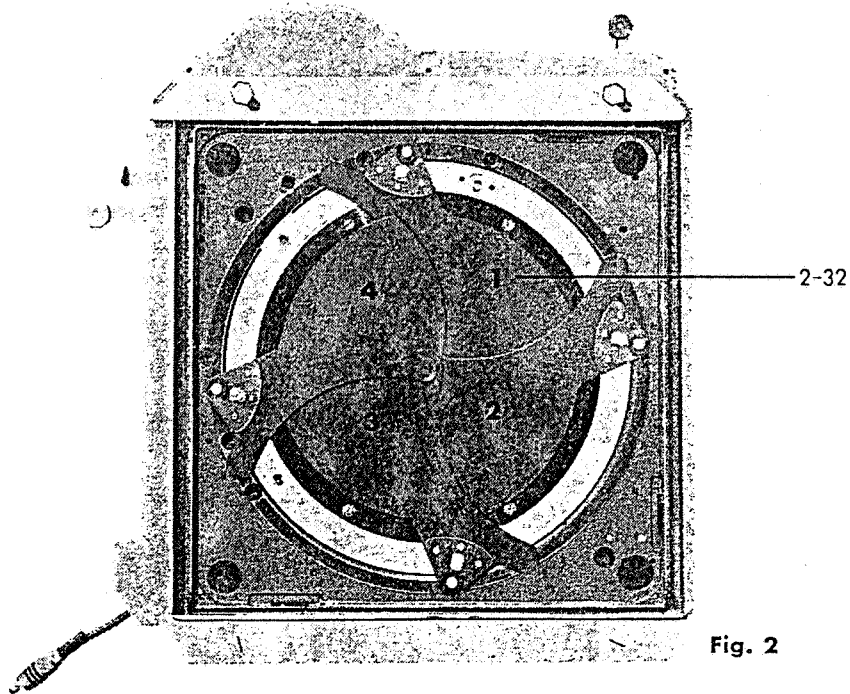

Fig. 2
- (c) When assembling shutter blade assembly 2-32, be careful of the direction in which the blade tip is bent and the order of assembly. Assemble it according to Fig. 2.